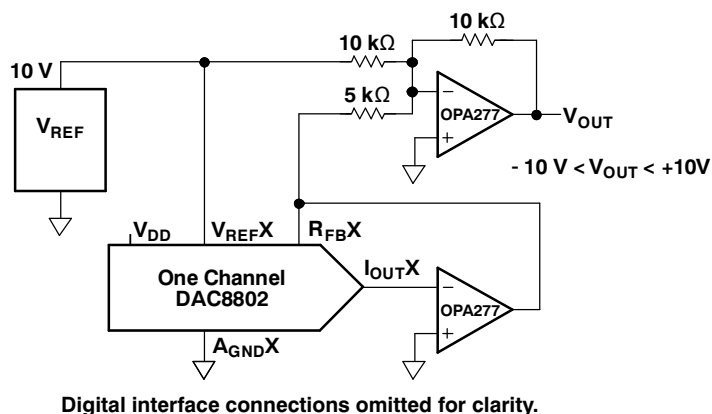

Figure 35. Four-Quadrant Multiplying Application Circuit
Some applications require full 4-quadrant multiplying capabilities or bipolar output swing, as shown in Figure 35. An additional external op amp (A2) is added as a summing amp. In this circuit, the first and second amps (A1 and A2) provide a gain of 2X that widens the output span to 20 V. A 4-quadrant multiplying circuit is implemented by using a 10-V offset of the reference voltage to bias A2. According to the following circuit transfer equation (Equation 2), input data (D) from code 0 to full scale produces output voltages of $V_{OUT} = -10\text{ V}$ to $V_{OUT} = 10\text{ V}$.